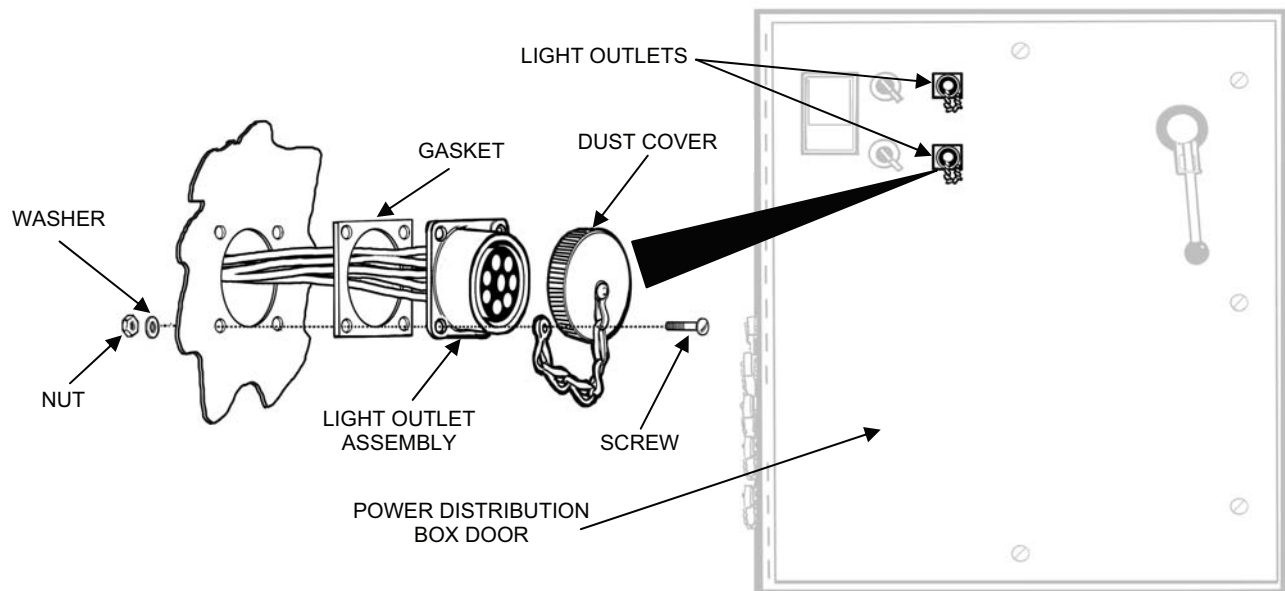

Figure 14. Light Outlet Assembly Removal.
1. Remove a light outlet assembly from the power distribution box door as follows (see Figure 14)